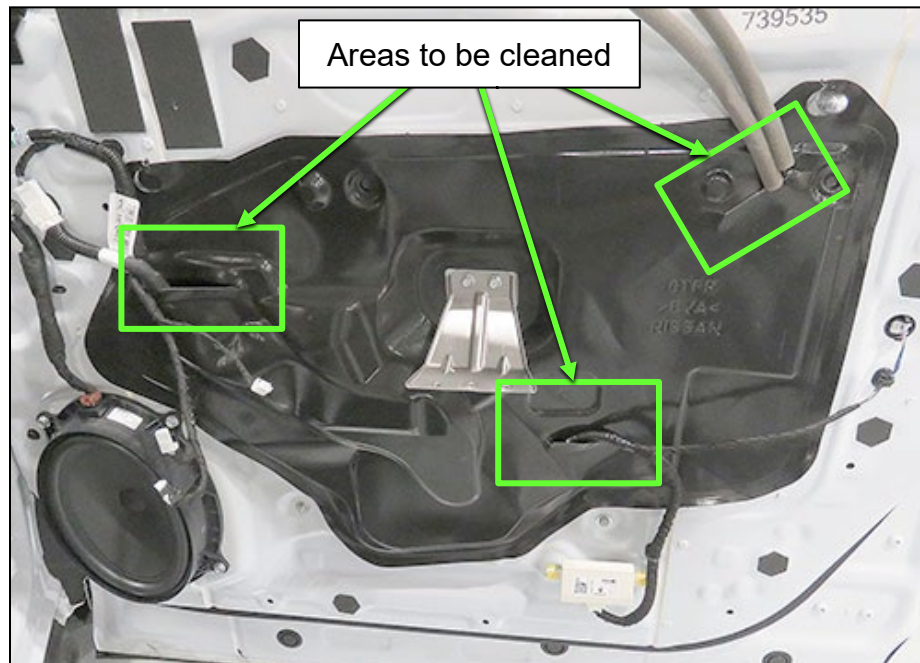

Figure 2
2. Use 80-220 grit sandpaper to scuff the three (3) areas shown in Figure 2.
3. Clean the door seal surface in the three (3) areas shown in Figure 2 with alcohol.